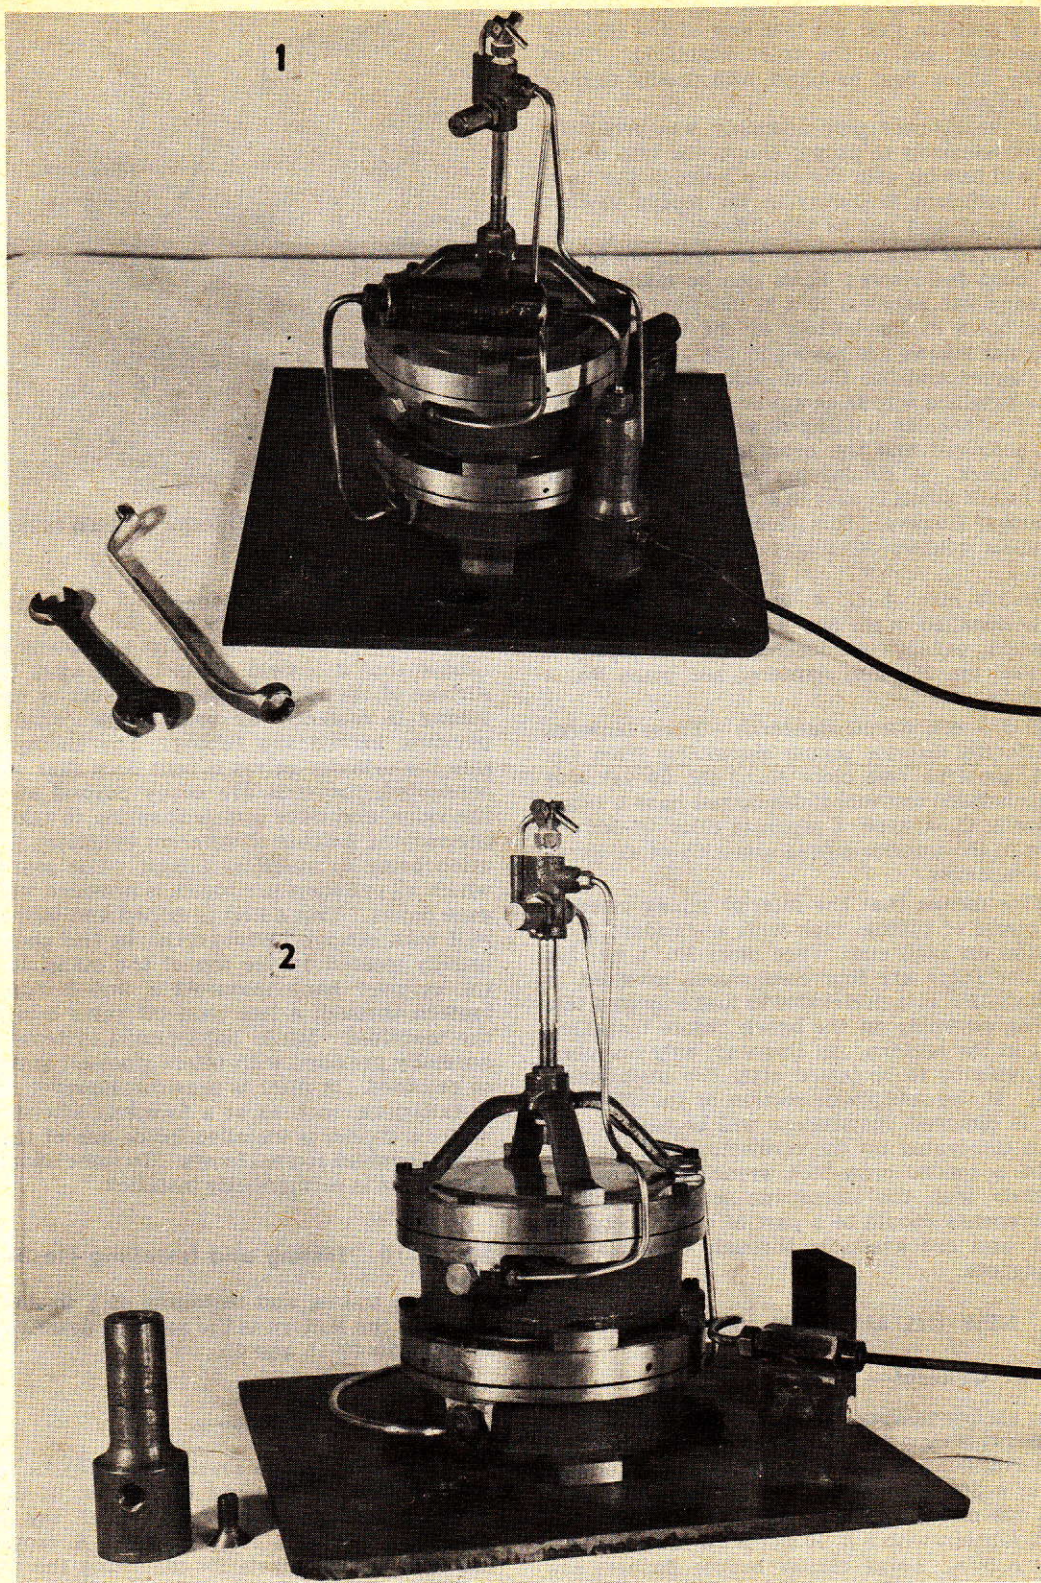

FIGURE 20-73.—Flasher test jig.
C. *Shop-test jig.*—In the shop, where lanterns are overhauled and made ready for buoys or minor lights, it is advantageous to construct a jig for setting up and testing interior lantern flasher piping. The jig should be made up to simulate the interior conditions in a lantern base, such as a steel plate with four pins on which to set the flasher, and inlet fittings in the same relative position as the lantern test valves. By hooking this unit up to an acetylene line, the entire assembly is tested before installing in the lantern. The use of such a test jig is shown by figure 20-73 (1) to simulate Service-type lantern piping. In figure 20-73 (2) the flasher is equipped with the regular A. G. A. interior piping for use in the A. G. A. lantern.